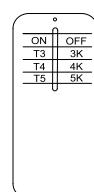

Figure 2b
2. Using the remote control (sold separately), adjust the light distribution and CCT to the desired settings. Point the remote at the 1/2 NPT clear KO plug and press the buttons of the desired settings. Remote control works at a range of 50'-60'. (see Fig. 2b)